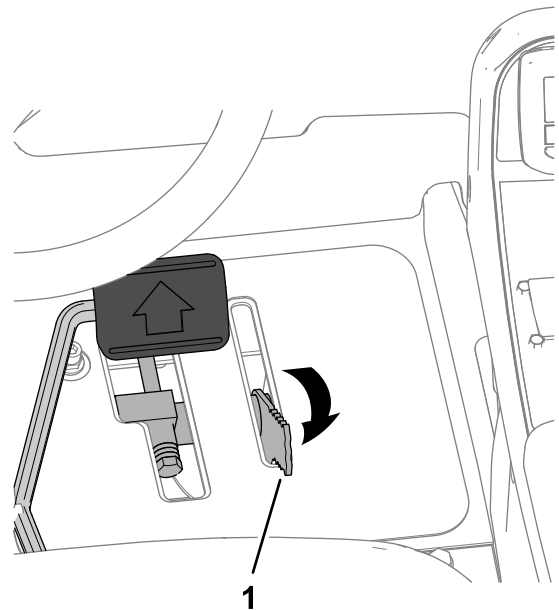

Figure 47
3. Move the lever for the mow-speed limiter rearward to the TRANSPORT position (Figure 47).